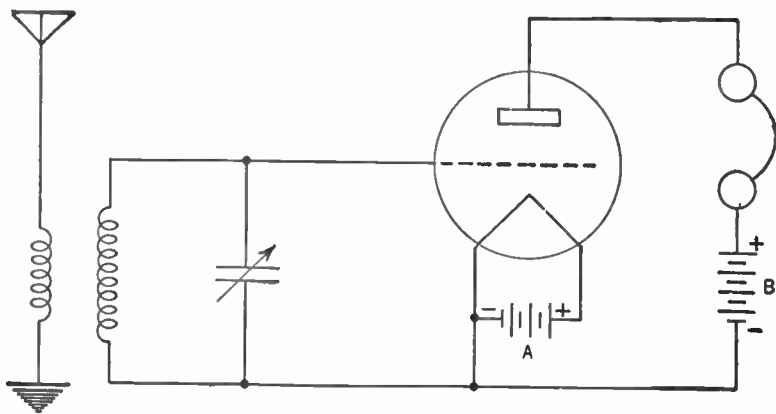

Figure 66. Diagram showing how alternating current from the tuning circuit places positive and negative charges on the grid of De Forest's tube.
Since charges on the grid control the flow of electrons from the filament, we are able to control the flow of the large plate currents by means of a small charge on the grid. And this is just what De Forest set out to do. (See Figure 66.)
Look at the diagram in Figure 66. You will notice a number of paths or circuits through which electrons may flow. There is the *aerial-ground system or circuit*. Then there is the *tuning circuit*, consisting of the secondary of the antenna coupler and the variable condenser. Then there is the *filament circuit* consisting of the A battery and the filament. There is the *plate circuit* consisting of the filament, the stream of electrons from the filament to the plate, the plate, the phones, the B battery and the conductor leading back to the filament.
But in the triode, connected as in Figure 66, the stream of electrons from the heated filament to the plate would continue to flow, even though the grid were slightly negative. In fact, this flow of electrons would continue until the grid assumed a fairly high negative charge, because of the relatively high positive charge
**Figure 70.** Diagram showing how a "C" battery is connected to place a negative charge or bias on the grid of the triode. The completed diagram would include the earphones, "A" and "B" batteries connected just as in Figure 66.